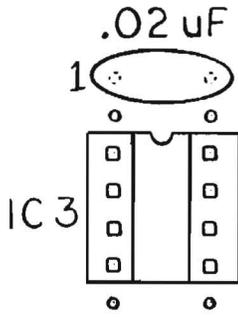

Fig. 2
- 4. Install one .02uF cap in vacant holes 1 and 14 of IC3. See Figure 2, below.